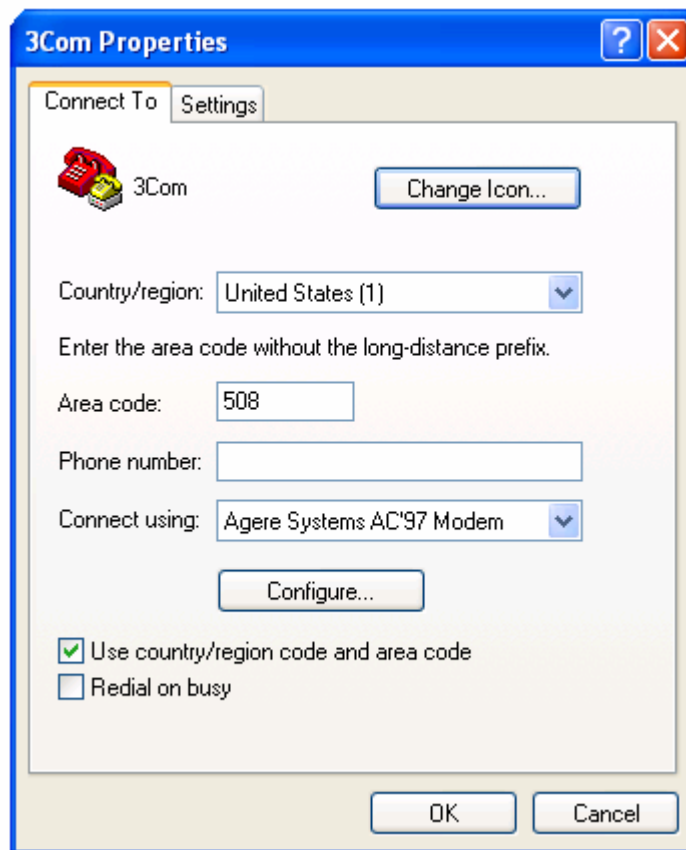

Figure 4-3 Set the connection port
Step 2: Enter the name of the new connection in the Name field and click <OK>. The dialog box, as shown in Figure 4-3, appears.